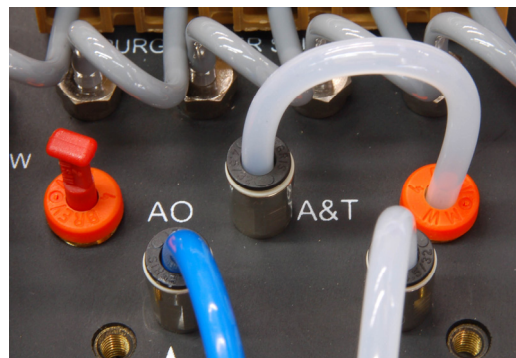

Figure 10 Action on loss of pressurization jumper tube
The action on loss of pressurization is set by moving the jumper tube (see Figure 10 Action on Loss of Pressurization Jumper Tube). The standard setting is Alarm and Trip where the link is from C to A&T, with a plug in AO. Changing to Alarm Only (AO) is user adjustable by moving the link from C to AO, and plugging A&T.